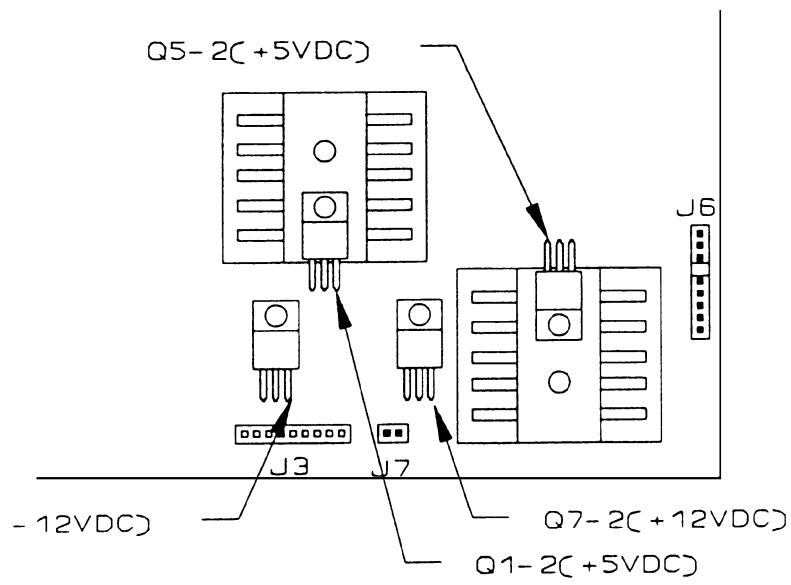

Figure 7-3: Dual Display PCB DC Voltage Checks
All DC voltages listed are referenced to chassis ground (minus meter lead to chassis ground). Refer to Figure 6-2 in Section 6.1.2. for connector locations and Figures 7-3 and 7-4 for component locations.
- 2 - **+5 VDC:** Regulated control logic supply, (Q5 pin 2, Figure 7-3).
- 3 - **+5 VDC:** Regulated display logic supply, (Q1 pin 2, Figure 7-3).
- 7 - **-12 VDC:** JW and JY Port RS-232 Supply, (Q6 pin 2, Figure 7-3).